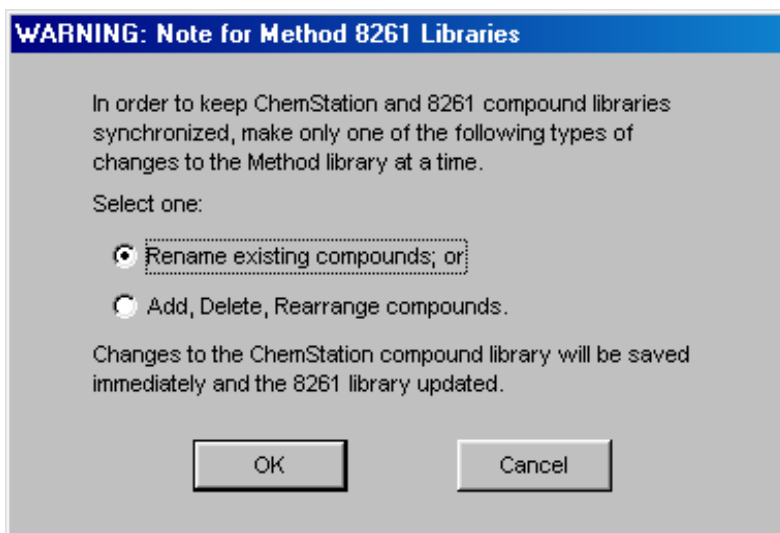

Figure 3 - Input Dialog for Compound Editing
The function used to edit quantitation libraries in ChemStation is a 'black box' – it edits the quantitation library, but provides no details of what has been done. After the quantitation library has been edited in ChemStation, there is no way to tell if a compound was renamed or added. The input dialog box shown in Figure 3 informs the user that renaming compounds must be done separately from all other quantitation library changes. It also queries the user as to what types of changes will be made so that the 8261 library can be updated appropriately.
- Complete the dialog shown in Figure 3. Select one of the radio buttons. If the top button is selected, rename existing compounds only. If the second button is selected, compounds may be added, deleted, and rearranged in the same operation and in any sequence.